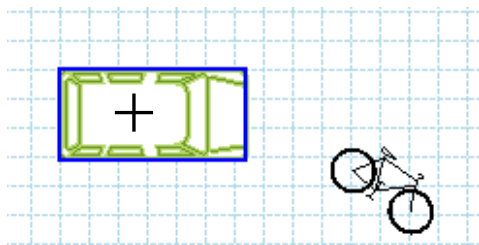

Figure 149. Select First Symbol
2. Click the first of the two symbols to be linked together, as shown in Figure 149.